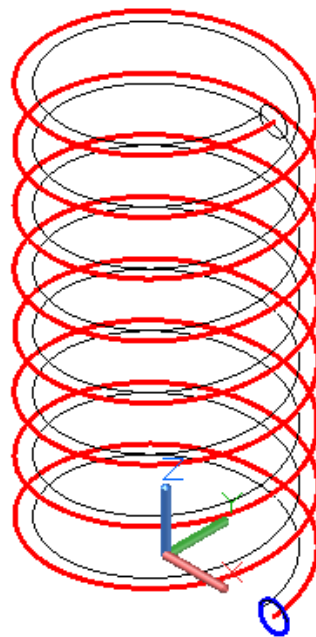

Figure Step 7
Step 7 Using what you learned in Module 22, create the coil by entering the SWEEP command. Select the circle as the profile and the helix as the path. (Figure Step 7)